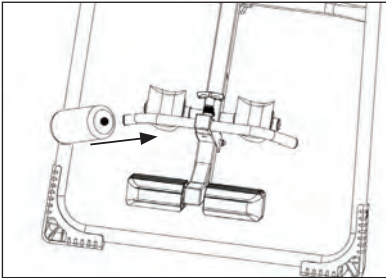

Figure 12
- Slide the Foam rollers over each side of the Front Ankle Bar (Figures 12 and 12A).